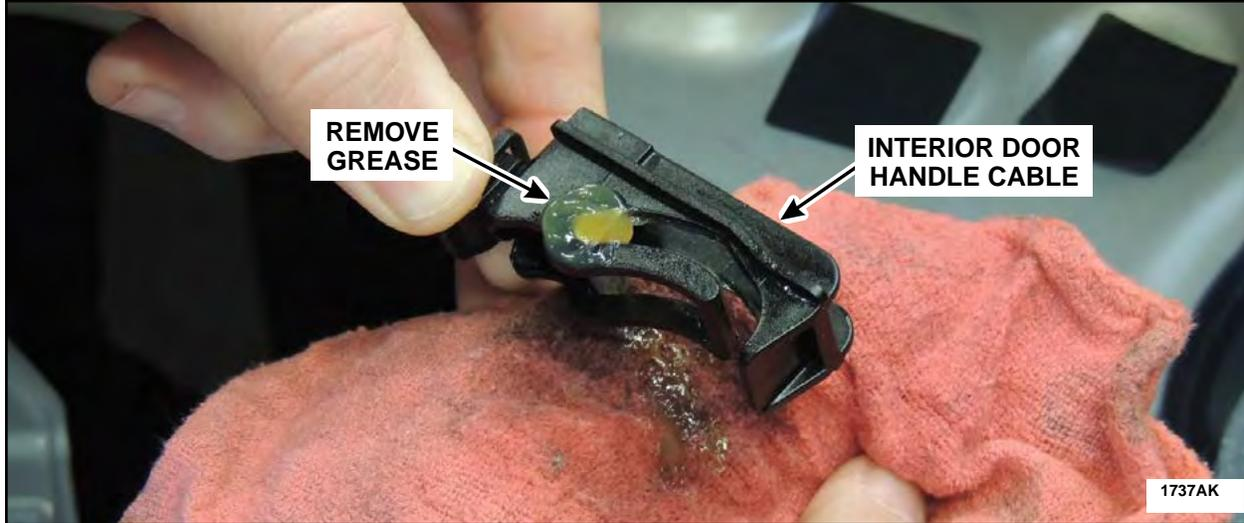

FIGURE 39
11. Using isopropyl alcohol and a clean shop cloth, thoroughly remove grease from the interior door handle cable mechanism. See Figure 39.